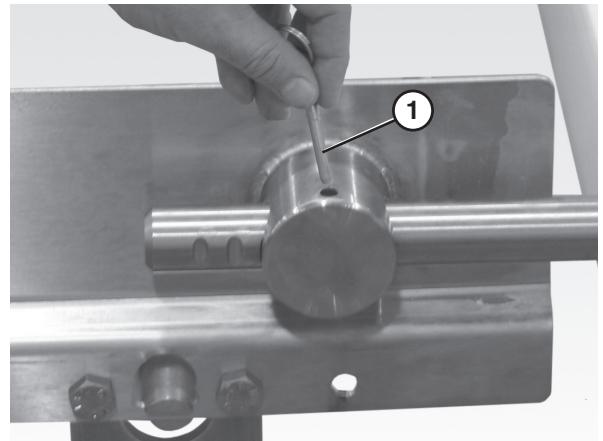

Figure 42
2. Remove the pull pin (Figure 42, item 1) on the tension end of the conveyor to release belt tension.